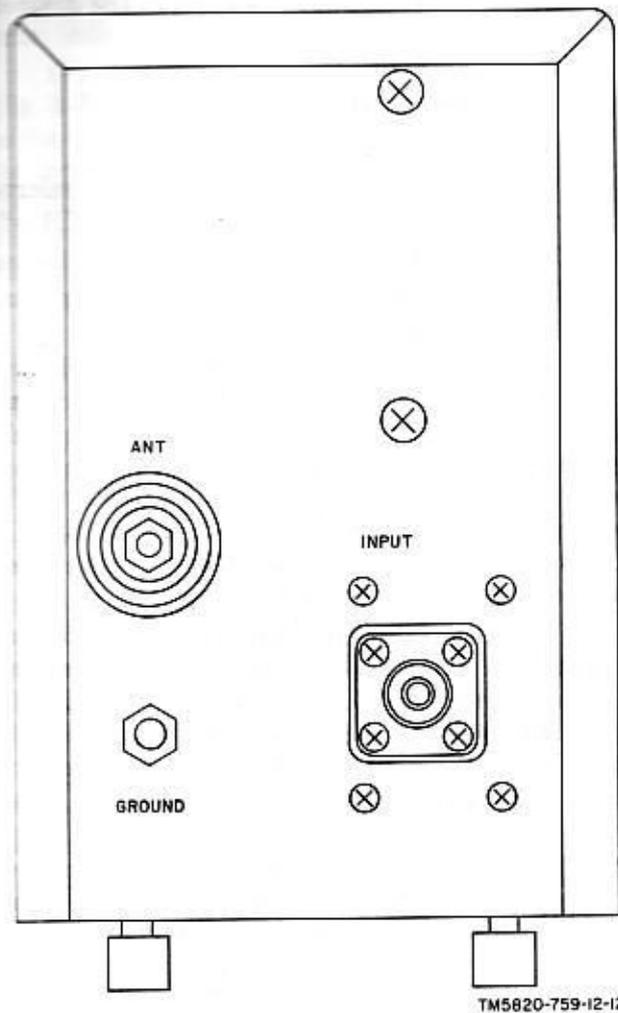

Figure 3-4. Coupler, Antenna CU-1782/
3. Antenna coupler rear Panel Connectors (fig. 3-4).